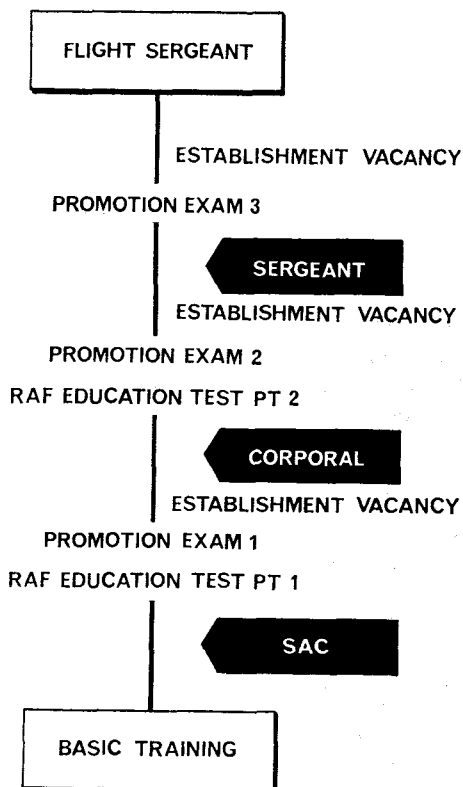

Fig 1.5 Career Structure—Aerial Erector
We are all, no doubt, interested in promotion. Fig 1.5 shows that promotion prospects in the trade of Aerial Erector exist up to the rank of Flight Sergeant (FS).
The second factor is, to a large extent, up to the airman himself. To become eligible for promotion, an airman must have passed appropriate examinations. For example, as shown in Fig 1.5, for an airman (SAC) to become eligible for promotion to Corporal (Cpl), he must have passed Promotion Examination No 1 and also the RAF Education Test Part 1.
RAF Education Tests. As shown in Fig 1.5, the two parts of the RAF Education Tests are taken at different points in the career ladder. In general, these tests check whether an airman has the basic educational qualifications required for appropriate ranks in the trade. Part I is required for promotion from SAC to Cpl, and Part II for further promotion. Note that a pass in English and any two other subjects in the General Certificate of Education (GCE), or equivalent passes in the Certificate of Secondary Education (CSE), give exemption from both parts of the RAF Education Test.